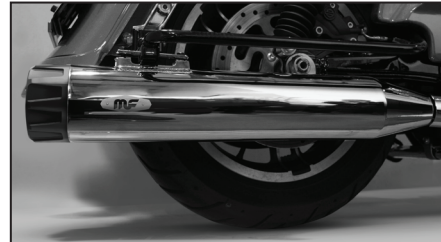

Fig.12
7. Clean the mufflers to remove any oil or residue. Please reference item 2 on Important Information page. (Figure 12)